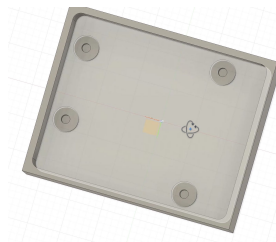

Figure 1.4
- Set the Operation to '**Join**' to merge the pads with the bottom box. This keeps them as part of the same body while maintaining their reference to the Arduino's position (see Figure 1.4).